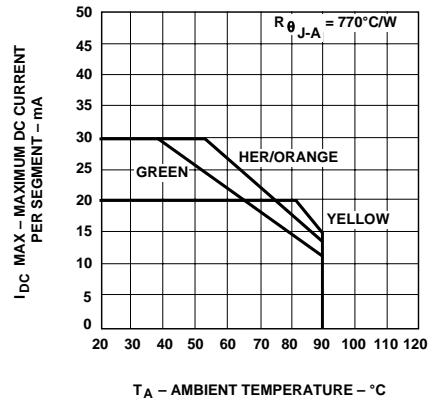

Figure 8. Maximum Allowable DC Current vs. Ambient Temperature.
4. Derate above 53°C at 0.45 mA/°C (see Figure 8).
6. Derate above 81°C at 0.52 mA/°C (see Figure 8).
8. Derate above 39°C at 0.37 mA/°C (see Figure 8).